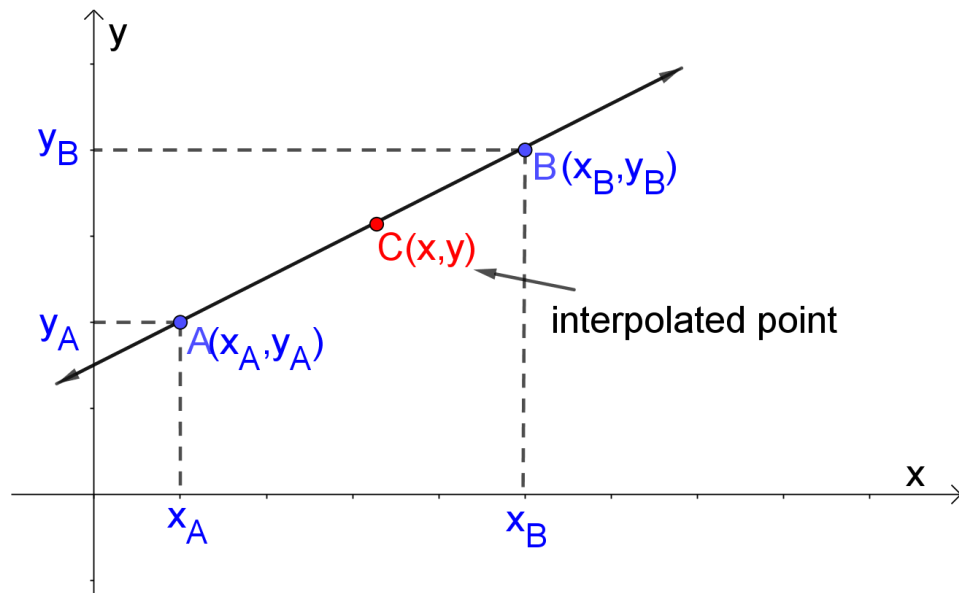

Figure 2. Point C is interpolated by drawing a line that passes through 2 known points, A and B.
Figure 2 is a graphical representation of interpolation:
- a) Using Figure 2 as a reference, derive the formula to find the y-coordinate of Point C (y) given its location (x) and the coordinates of two known points A and B (with coordinates (x_A, y_A) and (x_B, y_B)).